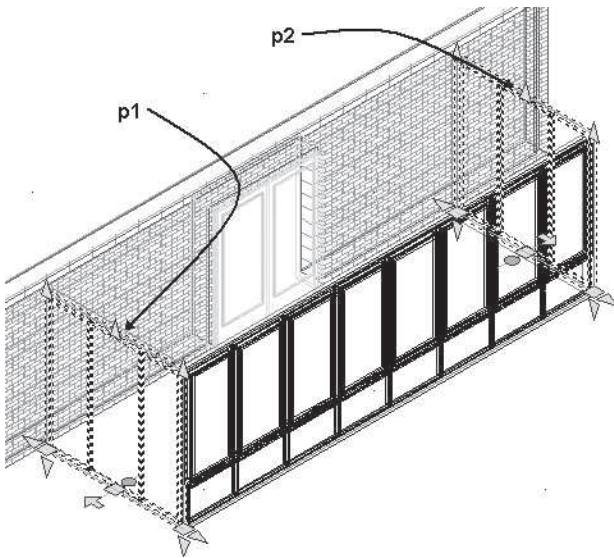

FIGURE 6.47 Editing curtain wall style
13. Select the curtain walls at **p1** and **p2** as shown in Figure 6.47, right-click select Properties, and choose **Sun Room** from the Style drop-down list of the Design tab of Properties.